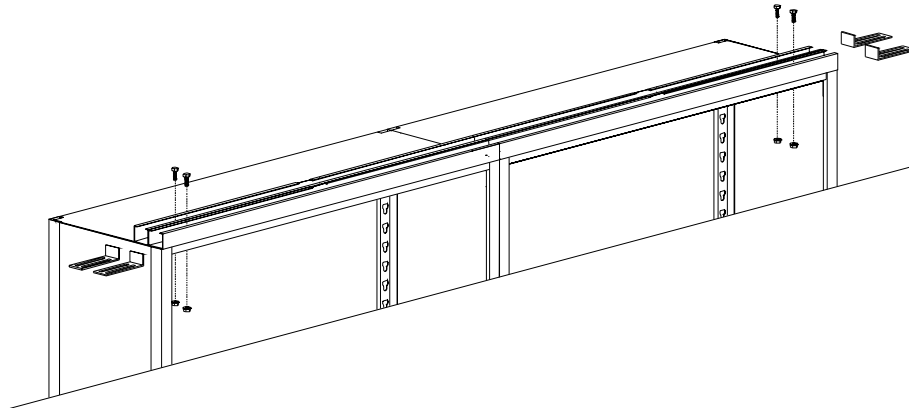

FIGURE 21
- STEP 1.2** If the system has more than one carriage, remove two (2) $\frac{1}{4}$ -20 x $\frac{3}{4}$ hex head bolts from the far left and two (2) from the far right sides of the Stationary Top Channels. Insert four (4) Top Safety Stops to each far ends of all the Stationary Top Channels. Re-install and tighten the $\frac{1}{4}$ -20 x $\frac{3}{4}$ hex head bolts. **See Figure 21.**
- STEP 2** Peel protective backing on adhesive on two (2) Rubber Bumper squares. Adhere to Bumpers to each Side to Side Carriage. One pair of Bumpers is needed for between Carriages.